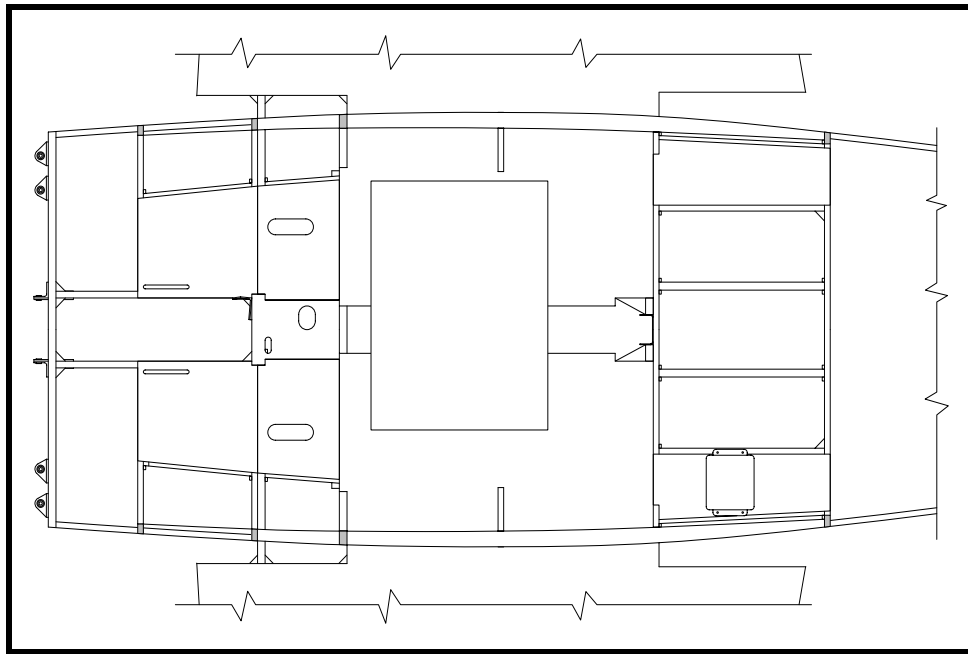

Figure 23
- ❑ Remove the center luggage compartment floor and position the strobe power supply as shown in Figure 23. (The power supply will be installed on the underside of the floor, but it's easier to locate the holes this way.) The two inboard holes should be located just inboard of the plywood floor, so that the screw heads will be hidden under the removable center luggage compartment floor. The outboard holes should be located just inboard of the cockpit side walls so that you will always be able to get to the mounting screws with a screwdriver by lifting up the edge of the carpet. Drill the four 3/16" holes and set the power supply aside.